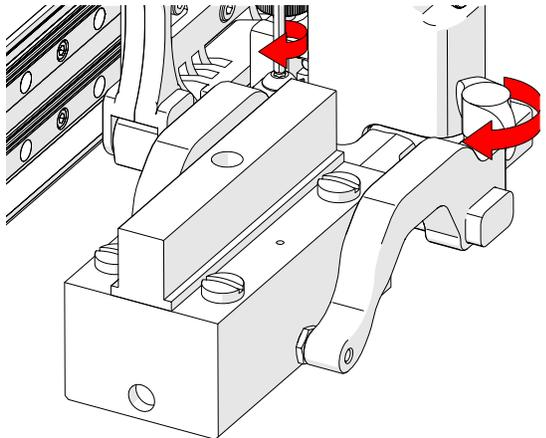

Fig. 49 - Tighten knobs and screws
7. Tighten both the probe holder adjustment knob and the arm clamp screw (Fig. 49) while ensuring the wedge remains centred with the yoke.